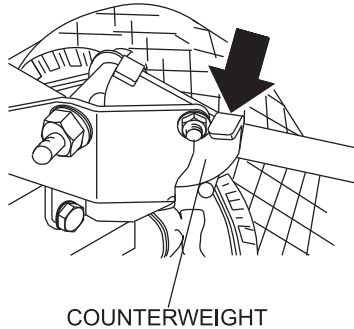
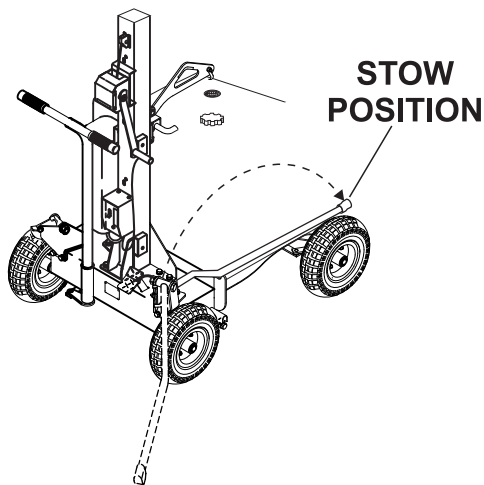

Figure 25. Outriggers (Released)
Figure 26. Outriggers (Stow Position)
- To unlock outriggers, push downward on the counterweight lever indicated by arrow (Figure 25). Grab hold of outrigger, pull upward, push down and place in stow position (Figure 26).